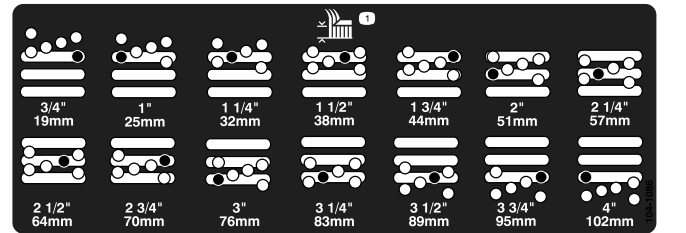

Figure 8
4. While supporting the chamber, remove the spacer (Figure 8).
5. Move the chamber to the desired height-of-cut and install a spacer into the designated height of cut hole and slot (Figure 8).